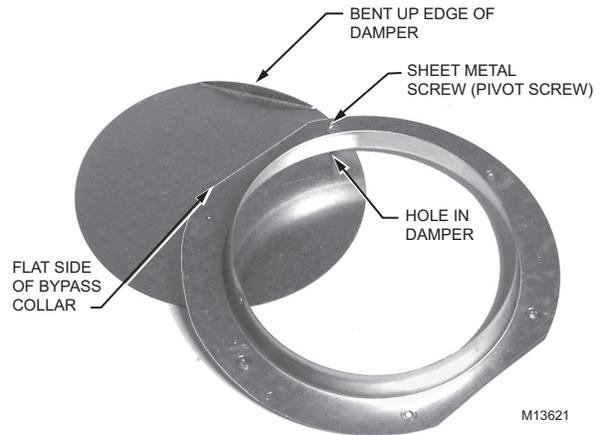

Fig. 11. Installing Optional Damper.
- If you are installing the Optional Damper, place a #8 X 3/4 in. Sheet Metal Screw through the Bypass Collar and Damper, as shown in Figure 11.